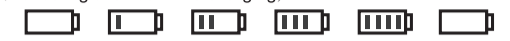

Figure 5
- Plug the power adaptor into the corresponding connector (See Figure 5)
- LCD indicates the charging progress as in Figure 5 (No testing allowed while charging).
a. When LCD screen displays "▬" during operation, the user should insert the adaptor in a timely manner. See Figure 5 in the Manual.